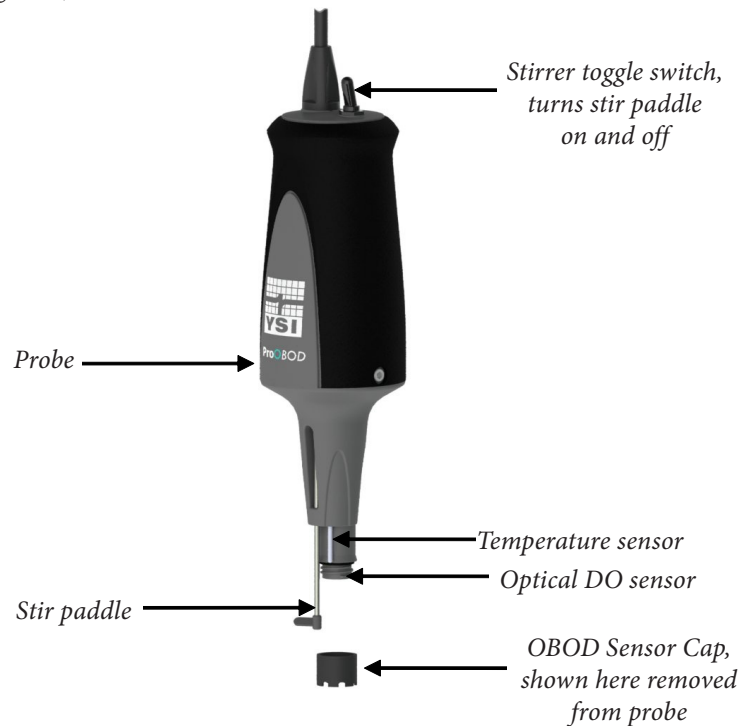

Figure 1.
Throughout the manual, the term “probe” refers to the end of the cable where the sensor, stir motor, and stirrer are located. The term “sensor” refers to the Optical Dissolved Oxygen sensing portion of the probe assembly and the term “sensor cap” refers to the removable sensing cap that is replaced about once per year (Figure 1).
To power the stirrer, locate the power supply that was included with the ProOBOD. The power supply for the USA/Japan probe is labeled model number 6260. The power supply for the international probe is labeled model number 6261. Next, connect the power supply to the probe's power connector and then plug the power supply into an outlet. The international ProOBOD is shipped with outlet adapters to connect the power supply to a variety of outlets. The stirrer can be turned on and off with the toggle switch located at the top of the probe (Figure 1).
2. Turn the probe stirrer on with the toggle switch located on the top of the probe (Figure 1). The stirrer helps keep solids from settling at the bottom of the sample bottle and quickens the sensor’s response.
7. Clean the clear surface of the optical DO sensor window (figure 1) with a lens cleaning tissue.